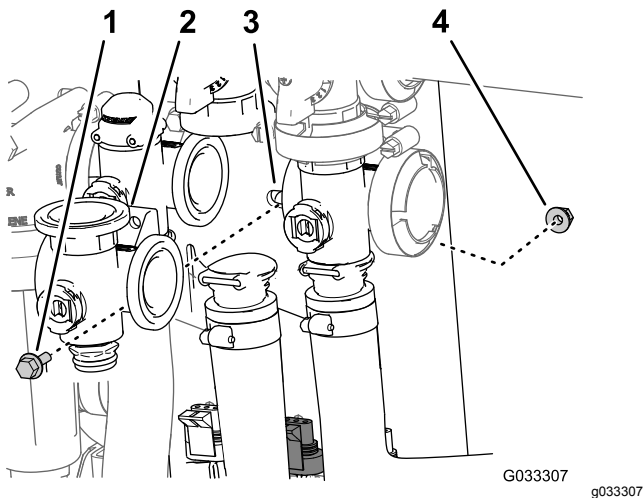

Figure 70
- Remove the flanged-head bolt and flanged locknut that secures the agitation valve to the valve mount and remove the valve manifold from the machine (Figure 70).